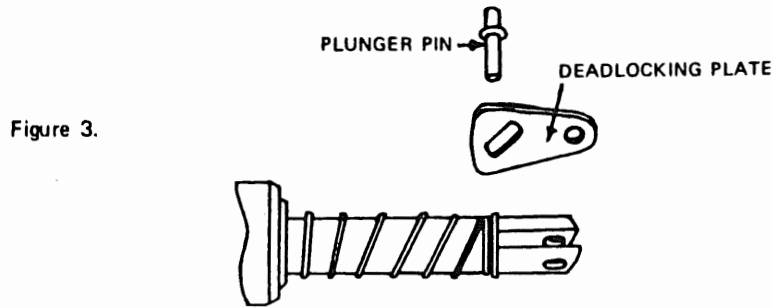

Figure 3.
5. Push the solenoid assembly back slightly and lift out the solenoid and deadlocking plate as a unit, being careful not to lose the plunger pin. (See Figure 3).